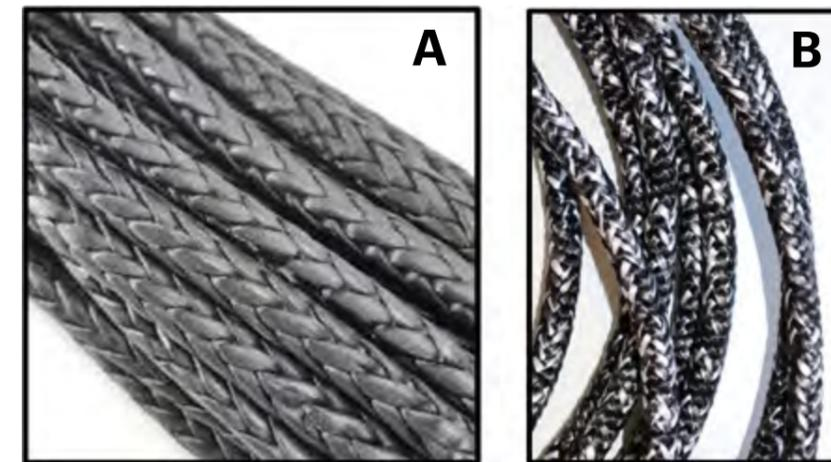

Figure 3: 12 Strand braided Dyneema rope of a 12-strand braided construction uncovered (A) and covered (B) Pictures by the author.
- ❑ The braided rope is available in a covered and uncovered form (Figure 3).